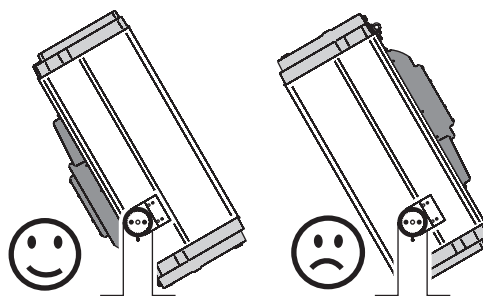

Figure 4: Heat exchanger position
The Exterior 1200 Image Projector is rated UL Wet Location. When choosing a location for installation, consider that the main housing has an ingress protection (IP) rating of 65, but that the heat exchanger unit must be protected from rain or direct water projections that might fill the heat exchanger with water and cause overheating. The luminaire may therefore be installed in any orientation, but it must be positioned so that the heat exchanger is on the lower side of the luminaire (see Figure 4). If necessary, loosen the yoke tilt lock screws (**B** in Figure 1) and reposition the yoke.